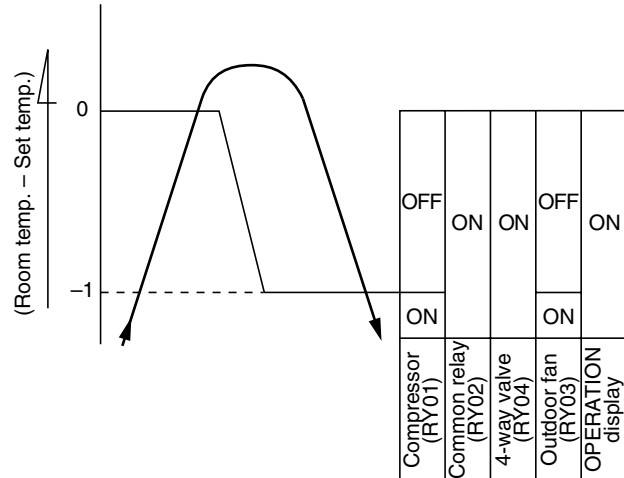

Fig. 7-4-1
- (1) Relays compressor 4-way valve, outdoor fan and operation display are controlled as shown in Fig. 7-4-1.